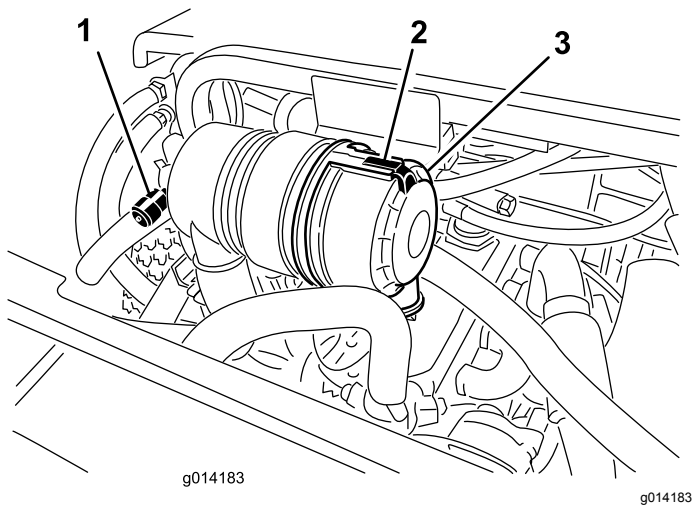

Figure 30
migration through both the upper and lower king-pin bushings. You should see grease purging out of both the top and the bottom of the axle casting/bushing assembly areas of all 4 kingpin assemblies (Figure 30).
Service the air-cleaner filter only when the service indicator (Figure 30) requires it. Changing the air filter before it is necessary only increases the chance of dirt entering the engine when you remove the filter.
1. Release the latch securing the air-cleaner cover to the air-cleaner body (Figure 30).